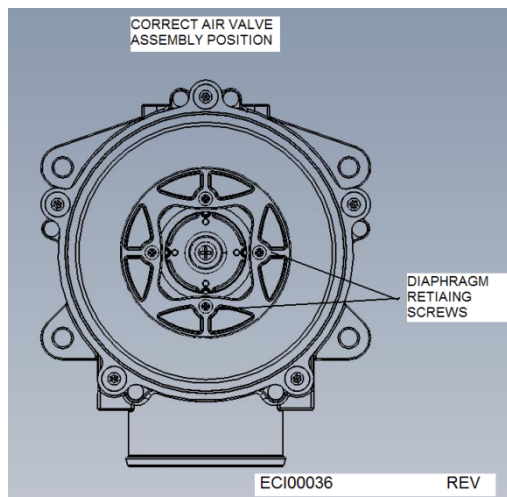

Figure 14 - Open Loop Mixer Air Valve
8. Place the new diaphragm, onto the air gas valve assembly. Align the holes in the diaphragm, with the air valve, as shown in Figure 14.
9. Secure the diaphragm to the air valve, using the four (4), previously removed screws.